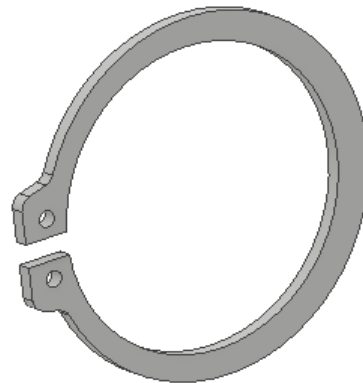

Figure 17-44 Final rotated model of circlip
4. Apply the fillets of 1 mm radius to the model. The model after creating the fillets is shown in Figure 17-44.